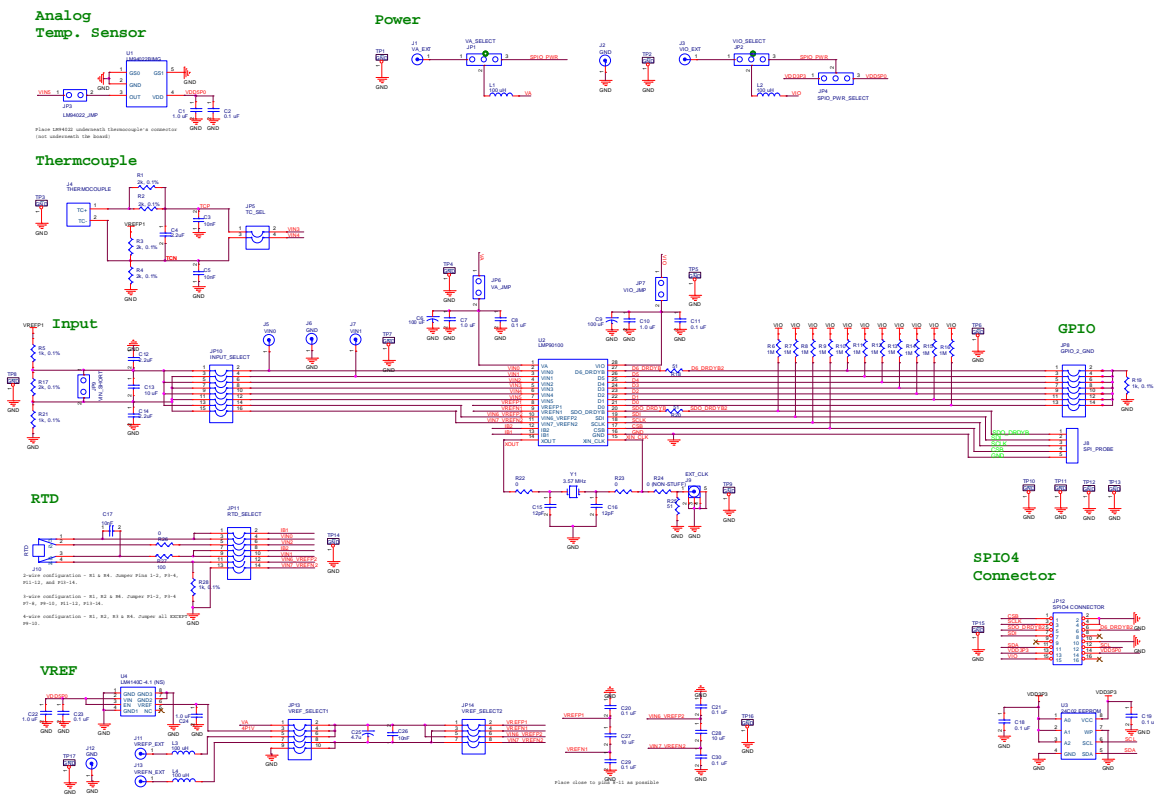

Figure 20 - LMP90100EB Schematic
- a. Figure 20 shows the schematic.
The schematic for the LMP90100EB can be seen in Figure 20.